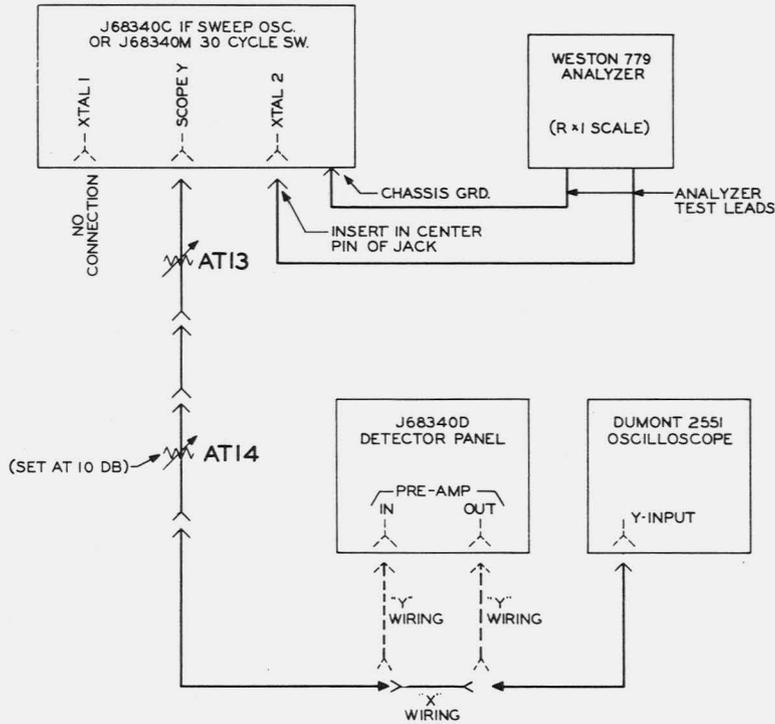

Fig. 9 - Circuit to Check Gain and Low-Frequency Response of Pre-amplifier
(1) Connect the test circuit in accordance with Fig. 9 using the "X" connection. Set AT13 at 0 and AT14 at 10 db. Turn the PRE AMP switch on the meter and control panel to ON and check that the PWR switch on the IF sweep oscillator or 30 cycle switch panel is on.
(2) Operate the oscilloscope with line frequency sync, internal sweep at about 15 cycles, and blanking switch off. Adjust the vertical gain until the square wave pattern is 3 inches high. Use a total horizontal deflection of about 1 inch to make any slope across the flat portion of the square wave more apparent.
(3) Observe how much the top of the square wave slopes relative to the horizontal reference lines on the oscilloscope screen. The oscilloscope should be able to meet the requirements of par. 7.
(4) Reconnect the circuit using "Y" wiring in Fig. 9. Increase the attenuation of AT13 until the pattern is three inches high, to the nearest 1/2 db.